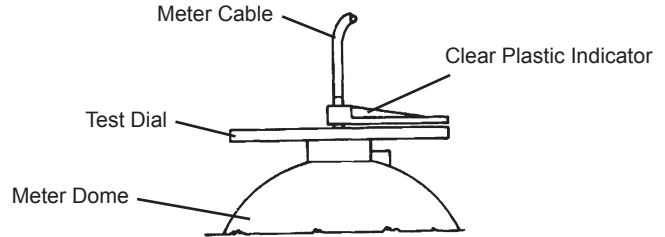
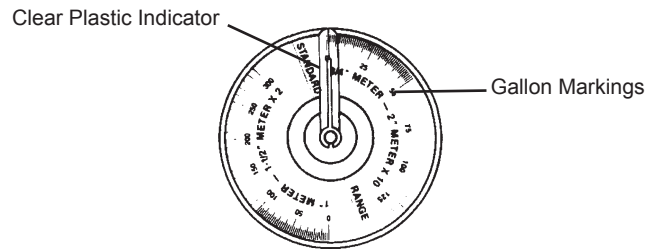

Figure 5
Figure 6
- Once pressurized check for leaks. Use meter checker (enclosed in package) to check operation. See Figure 5 and Figure 6.